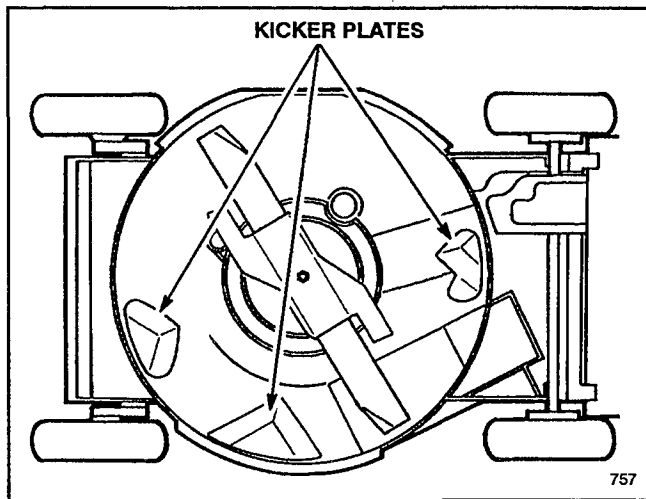

Figure 31
Keep underside of mower housing clean. Be especially careful to keep kickers on underside of mower housing free of debris (Fig. 31).
2. Tip mower on its right side (Fig. 31). Avoid rotating blade because starting problems may result.